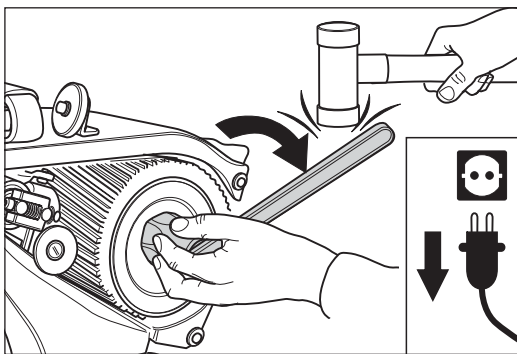

Fig. 79 Release the drum nut **clockwise (left-hand thread)**, if necessary by knocking gently with a soft hammer.
- 6 Open the drum nut by turning the box wrench (see tool kit) **clockwise (left-hand thread)** and unscrew the drum nut (Fig. 79).